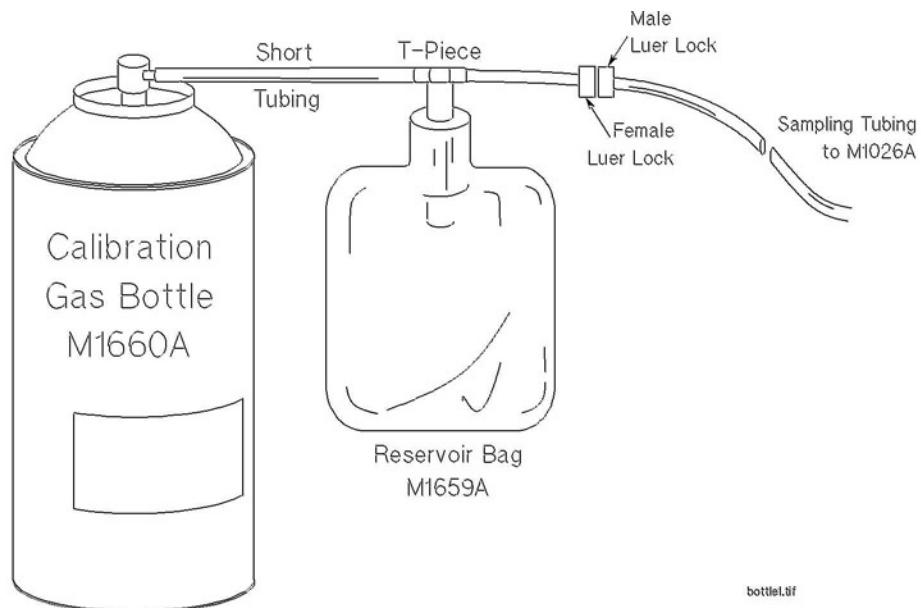

Figure 11 Span Calibration Equipment including Gas Canister and Spray Valve
- 5 Connect the calibration gas bottle, the reservoir bag and the sample line as shown in Figure 11, "Span Calibration Equipment including Gas Canister and Spray Valve".